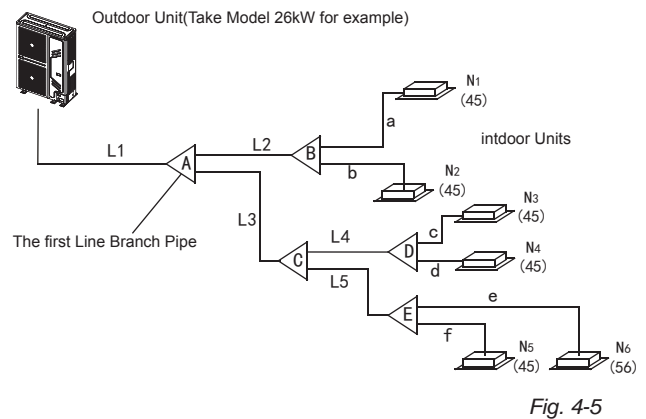

Fig. 4-5
- 2) Example 1: In the Fig.4-5, The downstream inner units of the L2, and its total capacity is $45 \times 2 = 90$, refers to the Table 4.4, the air/liquid side of L2 is: $\Phi 15.9/\Phi 9.5$.